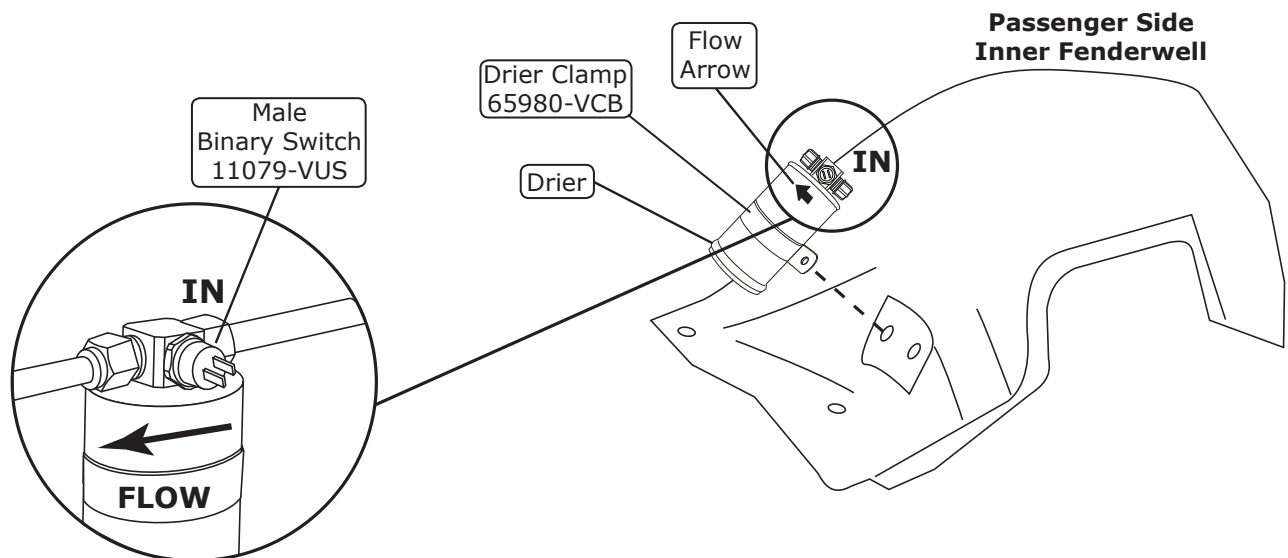

Figure 10
1. Install the drier clamp onto the drier (See Figure 10, below).
3. Remove the plug from the drier, and install the binary switch as shown in Figure 10, below.